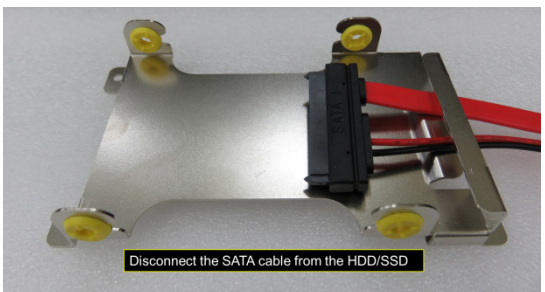

Figure 19
- 4.2.2.6 Disconnect the SATA cable from the HDD/SSD and remove the HDD/SSD as shown in Figure 19.